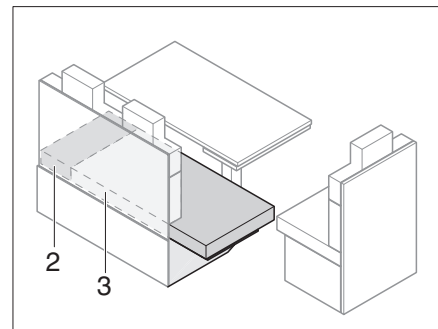

Fig. 142 After extending
- Pull the seat cushions (Fig. 142,3) onto the bench seat extension.
- Lay the additional cushions (Fig. 142,2) between the seat cushions (Fig. 142,3) and the exterior wall.
- Remove the additional cushion (Fig. 142,2).
- Pull the seat cushions (Fig. 142,3) onto the bench seat.